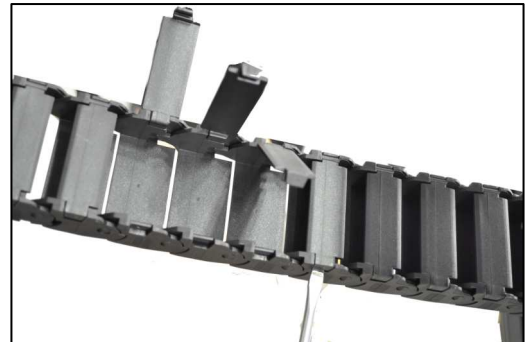

Fig. 8
- 1- Brackets mounted towards outside – Fig. 8-A – page 6
- 2- Brackets mounted towards inside – Fig. 8-B – page 6
and open the small doors, as shown in Fig. 8.